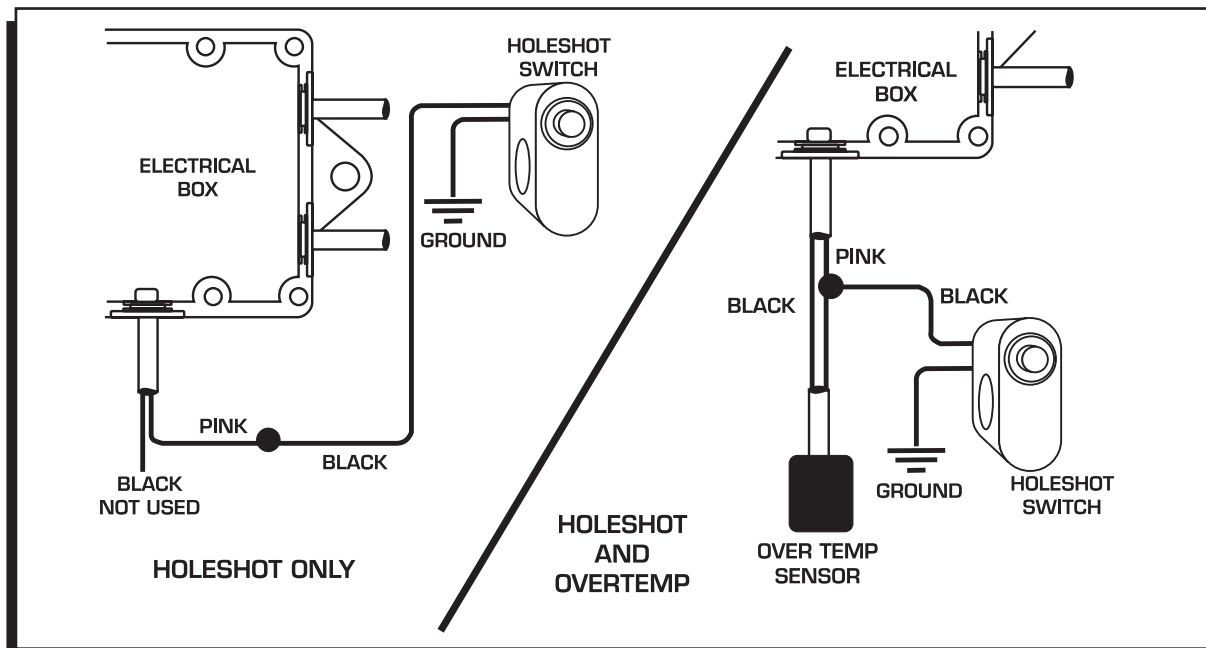

Figure 3 Connecting the Holeshot Feature.
1. Connect one side of the Holeshot Switch (PN 4372, not supplied) to the PINK wire of the Enhancer. Connect the other wire of the Holeshot Switch to ground (Figure 3).
2. Splice one side of the Holeshot Switch (PN 4372, not included) into the PINK wire of the Enhancer. Connect the other wire of the Holeshot Switch to ground (Figure 3).